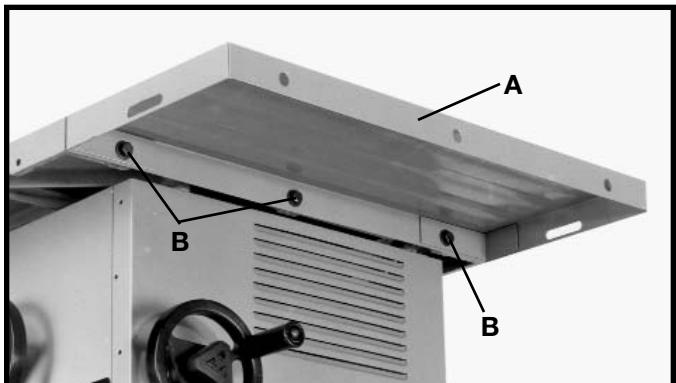
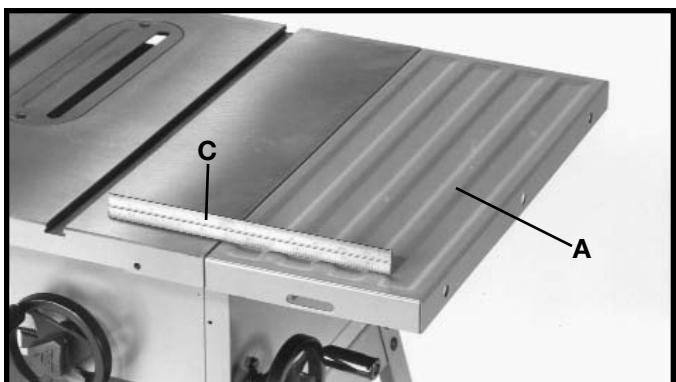

Fig. 9
Fig. 10
1. Align the three holes in the extension wing (A) Fig. 9, with the three holes in the side of the saw table. **NOTE: DO NOT TIGHTEN HARDWARE AT THIS TIME.** Place a 5/16" lockwasher and a 3/8" flat washer onto a M8x1.25x16mm hex head screw. Insert the screw through the hole in the extension wing and thread the screw into the tapped hole in the side of the saw table. Repeat this process for the two remaining holes in the extension wing and the saw table.
2. With a straight edge (C) Fig. 10, make certain the extension wing (A) is level with the saw table before tightening three screws (B) Fig. 9.